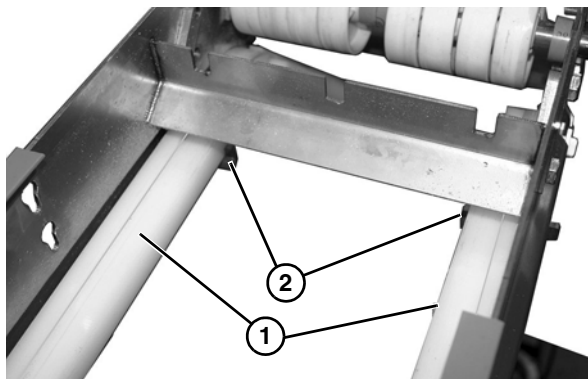

Figure 23
2. Install belt return (**Figure 23, item 1**) onto mounting bracket (**Figure 23, item 2**).